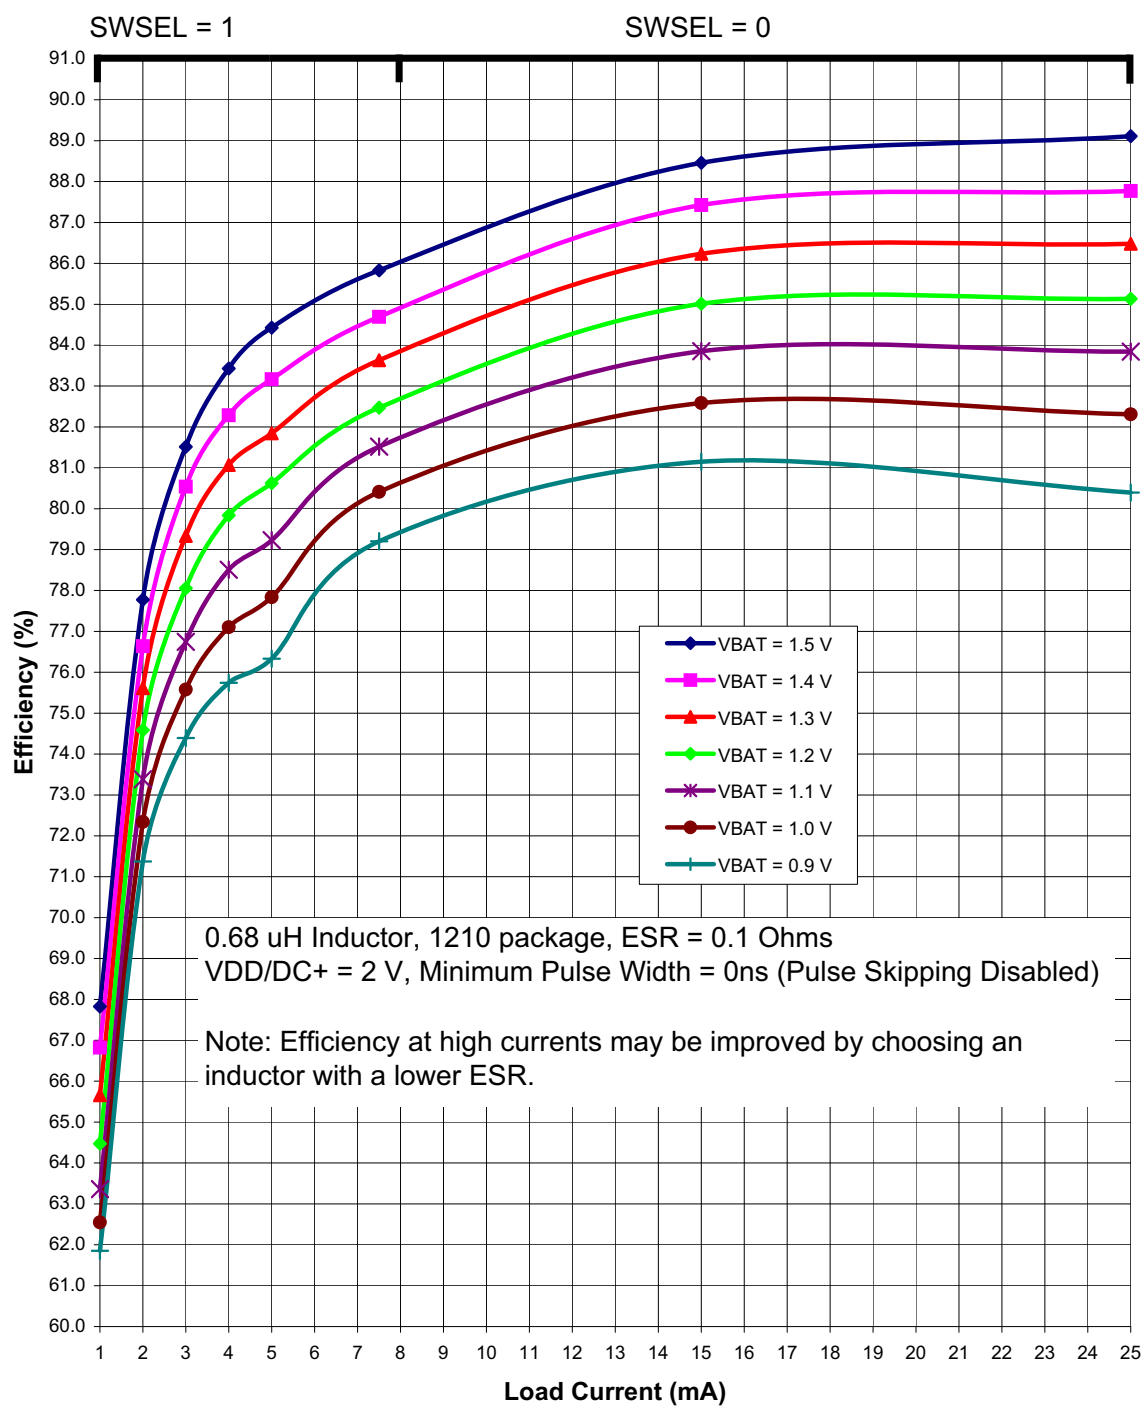
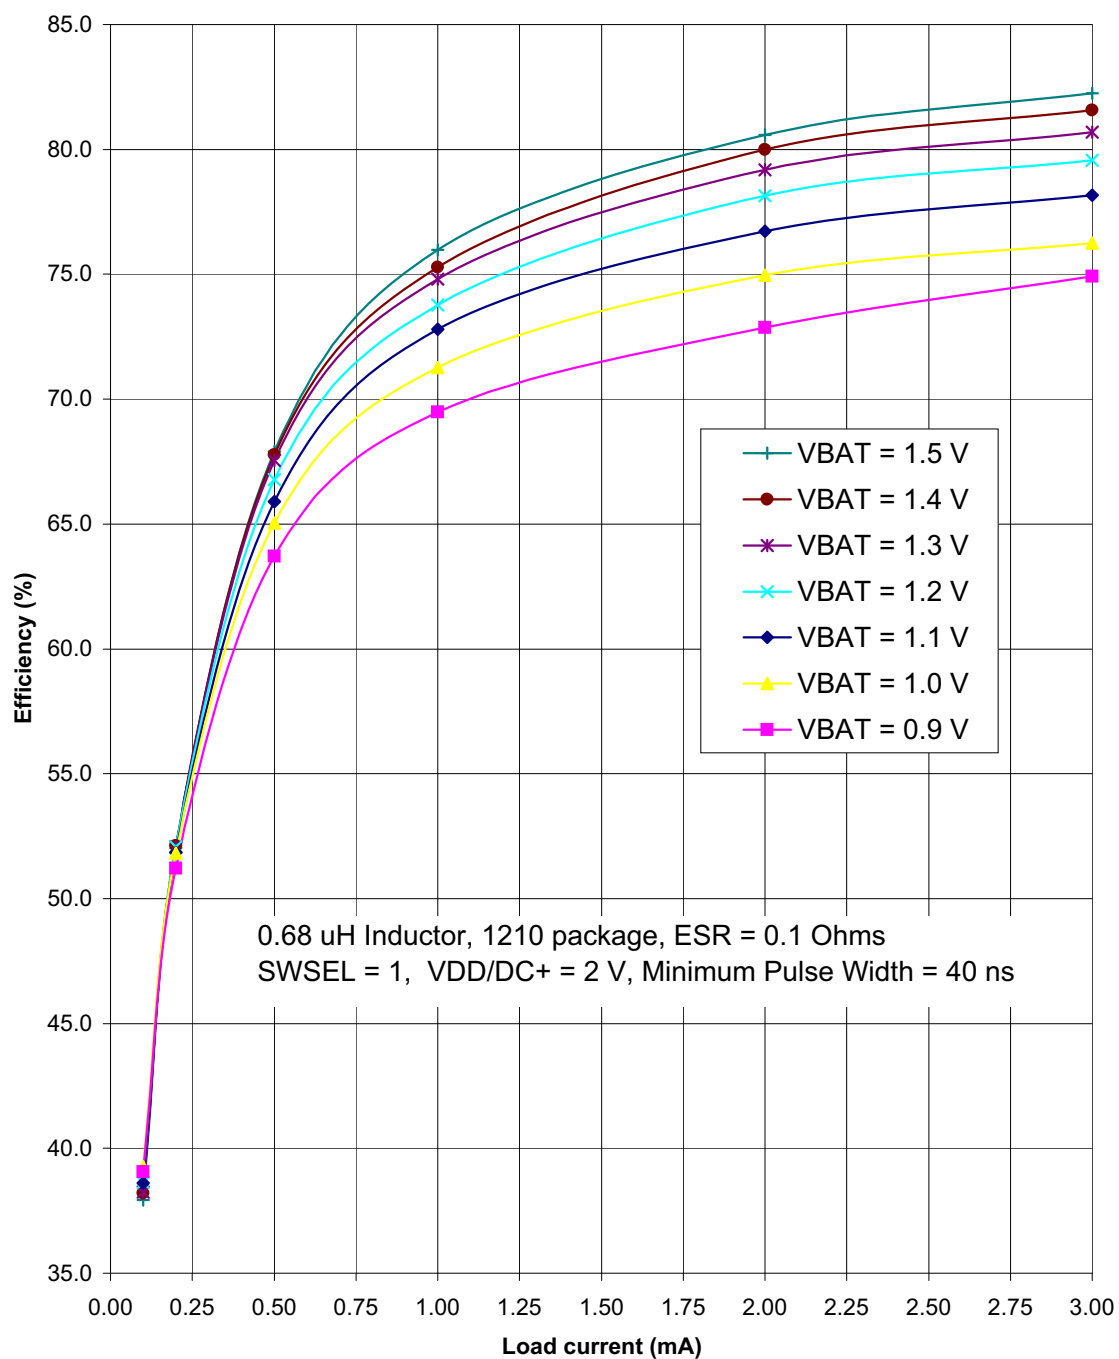

Figure 4.3. Typical DC-DC Converter Efficiency (High Current, VDD/DC+ = 2 V)
Figure 4.5. Typical DC-DC Converter Efficiency (Low Current, VDD/DC+ = 2 V)
Notes: <ol style="list-style-type: none"> <li>Based on device characterization data; Not production tested.</li> <li>SYSCLK must be at least 32 kHz to enable debugging.</li> <li>Digital Supply Current depends upon the particular code being executed. The values in this table are obtained with the CPU executing an "sjmp \$" loop, which is the compiled form of a while(1) loop in C. One iteration requires 3 CPU clock cycles, and the flash memory is read on each cycle. The supply current will vary slightly based on the physical location of the sjmp instruction and the number of flash address lines that toggle as a result. In the worst case, current can increase by up to 30% if the sjmp loop straddles a 128-byte flash address boundary (e.g., 0x007F to 0x0080). Real-world code with larger loops and longer linear sequences will have few transitions across the 128-byte address boundaries.</li> <li>Includes oscillator and regulator supply current.</li> <li>IDD can be estimated for frequencies ≤10 MHz by simply multiplying the frequency of interest by the frequency sensitivity number for that range, then adding an offset of 90 µA. When using these numbers to estimate IDD for &gt;10 MHz, the estimate should be the current at 25 MHz minus the difference in current indicated by the frequency sensitivity number. For example: VDD = 3.0 V; F = 20 MHz, IDD = 4.1 mA – (25 MHz – 20 MHz) x 0.120 mA/MHz = 3.5 mA.</li> <li>The Supply Voltage is the voltage at the VDD_MCU pin, typically 1.8 to 3.6 V (default = 1.9 V). Idle IDD can be estimated by taking the current at 25 MHz minus the difference in current indicated by the frequency sensitivity number. For example: VDD = 3.0 V; F = 5 MHz, Idle IDD = 2.5 mA – (25 MHz – 5 MHz) x 0.095 mA/MHz = 0.6 mA.</li> <li>The supply current specifications in Table 4.2 are for two cell mode. The VBAT current in one-cell mode can be estimated using the following equation:  <math display="block">\text{VBAT Current (one-cell mode)} = \frac{\text{Supply Voltage} \times \text{Supply Current (two-cell mode)}}{\text{DC-DC Converter Efficiency} \times \text{VBAT Voltage}}</math> <p>The VBAT Voltage is the voltage at the VBAT pin, typically 0.9 to 1.8 V.  The Supply Current (two-cell mode) is the data sheet specification for supply current.  The Supply Voltage is the voltage at the VDD/DC+ pin, typically 1.8 to 3.3 V (default = 1.9 V).  The DC-DC Converter Efficiency can be estimated using Figure 4.3–Figure 4.5.</p> </li> <li>The radio peripheral is placed in Shutdown mode.</li> </ol>